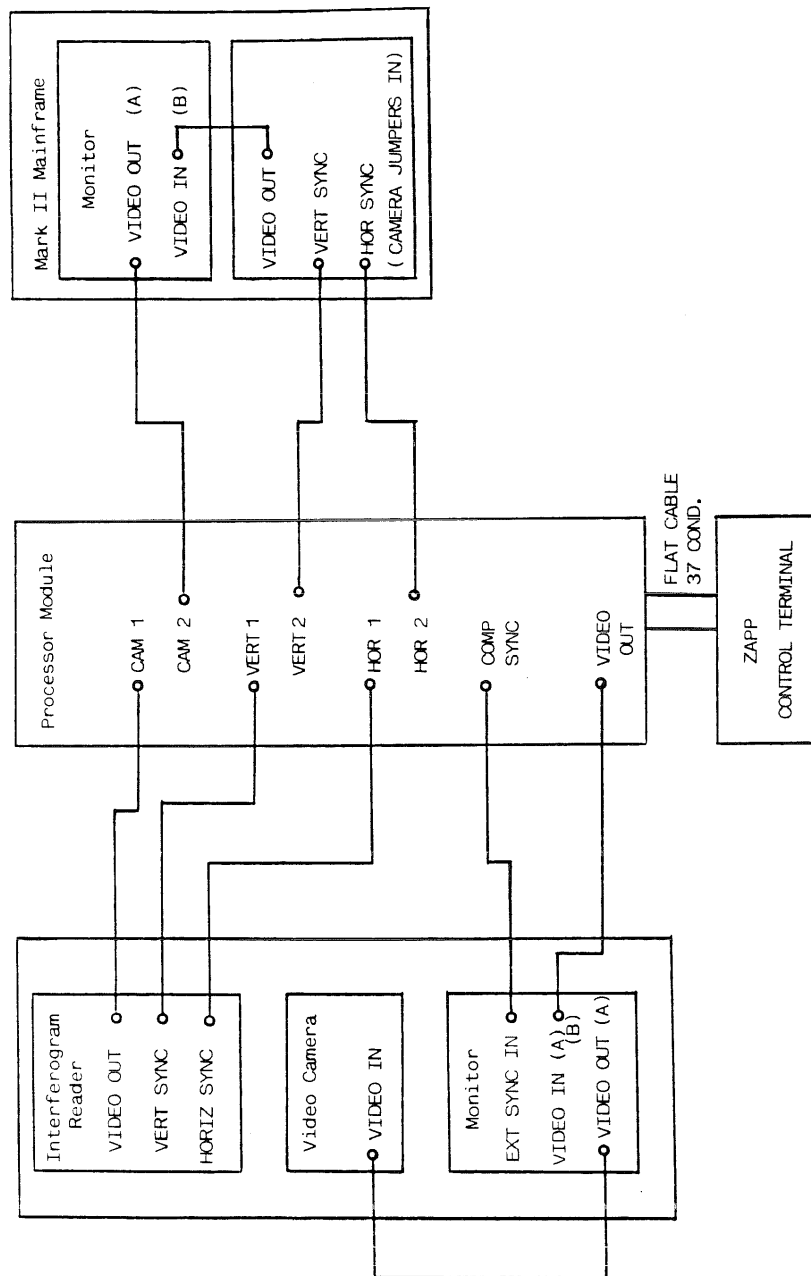

Figure 7.1.2-1 Wiring Diagram
7.1.2 Wiring Connections: Verify the connections shown in Fig. 7.1.2-1 (the flat ribbon cable from the "CONTROL TERMINAL" connector on the Processor Module must be connected to the 37 pin connector of the Control Terminal). If a ZAPP system includes an optional digital printer, the printer's 25 pin "D" connector must be connected to the "PRINTER" jack on the Processor Module. For ZAPP systems with an auxiliary computer, the computer's 25 pin "D" connector (RS-232 serial interface) must be connected to the I/O Port on the Processor Module.
7.3.3: If the wiring connections have not been verified, check all the connections shown in Fig. 7.1.2-1.
7.5.3: If the wiring connections have not been verified, check all the connections shown in Fig. 7.1.2-1.
7.10.3: Check all sync cables for proper connection. See Wiring Diagram, Fig. 7.1.2-1.